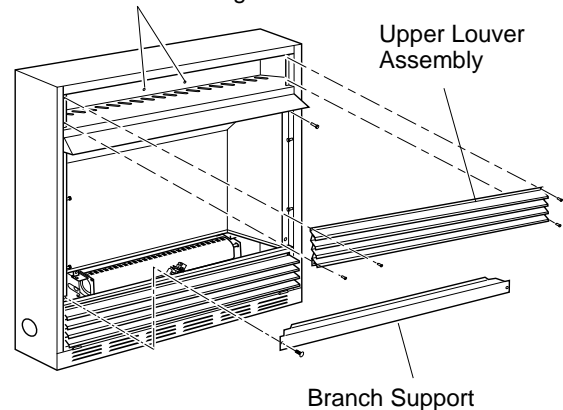
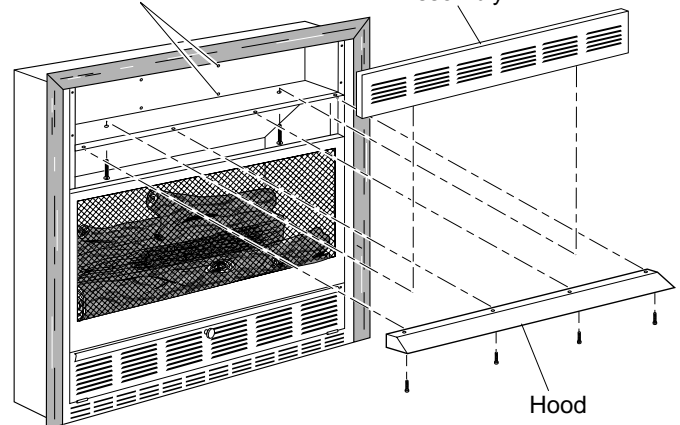

Figure 2 - Removing Upper Extruded Louver Assembly and Branch Support
Figure 3 - Removing Hood and Upper Sheet Metal Louver Assembly
2. If you have extruded louvers, remove 4 screws from louver assembly (see Figure 2). If you have sheet metal louver, remove 2 screws from louver assembly and 4 screws from hood (if installed) (see Figure 3). Save these screws.
4. Remove 2 screws from each side of branch support and pull branch support out (see Figure 2).
10. Reinstall upper louver assembly (see Figure 2 or 3, page 1) and branch support. Close lower louver door.
6. Reinstall upper louver assembly (see Figure 2 or 3, page 1) and close lower louver.